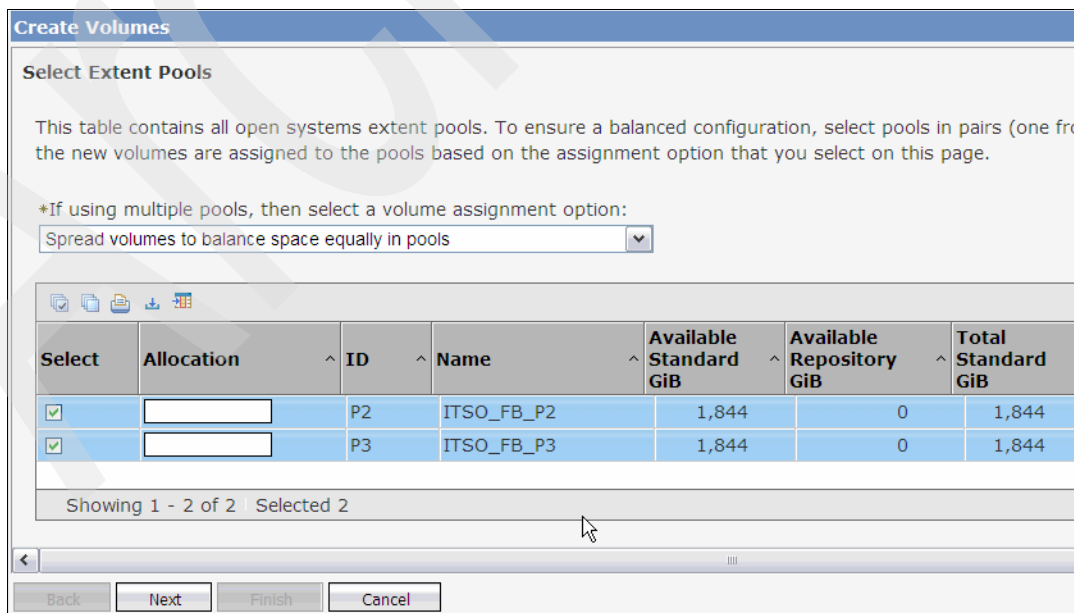

Figure 13-56 Create Volumes: Select Extent Pools
3. If you have more than one storage image, you have to select the appropriate one. In the Tasks pane at the bottom of the window, click **Create new volumes**. The Create Volumes window shown in Figure 13-56 appears.